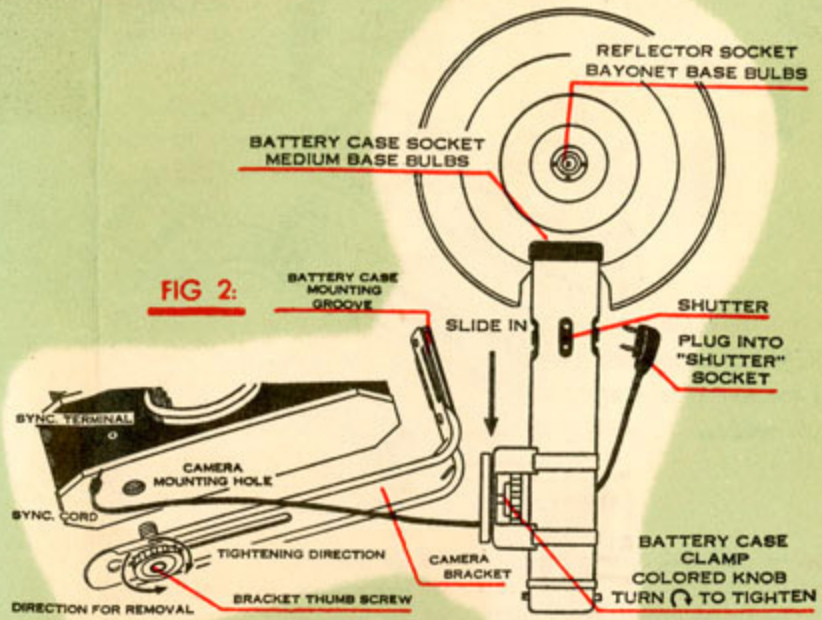
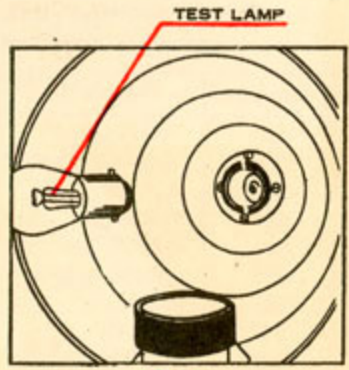

FIG 1:
FIG 3:
See FIG. 1: Remove the switch cap from the battery case (turn it counter-clockwise) Insert the capacitor into the battery case with the prong pointing DOWN. Then insert the 22.5 volt LAMINATED BATTERY with its POSITIVE TERMINAL (+ Mark) pointing UP. THE PLUS SIDE OF THE BATTERY IS IN CONTACT WITH THE PRONGED END OF THE CAPACITOR. Put the base cap back on the battery case (turn it clockwise). Push the "ON-OFF" button to the ON position (the SILVERED side is visible). Your MINICAM L-B-C UNIT is now ready to provide more than 5,000 FLASHES. (NOTE: If the "old fashioned" type of 1.5 volt standard dry cells are used as the power source, insert them with the positive terminal "UP"). Slide the reflector bracket into the battery case reflector clamp. Attach one end of the reflector cord to the battery case socket marked "EXTENSION".
See FIG. 3: Put the TEST LAMP (from your kit) into the reflector socket. Loosen (turn clockwise) the LOCK NUT of the TEST BUTTON. (FIG. 1) Press the TEST BUTTON. The TEST LAMP should "FLASH" immediately. If the "FLASH" occurred, then TIGHTEN the TEST BUTTON LOCK NUT (turn it counter-clockwise) TO PREVENT ACCIDENTAL "GO OFF" OF A FLASHBULB. Pull the BULB EJECTOR LEVER (See FIG. 1) to remove your test lamp. (NOTE: If the test lamp did not "FLASH", check your assembly again!!)
- a. Pull BULB EJECTOR LEVER (see FIG. 1) if bayonet bulb was used.